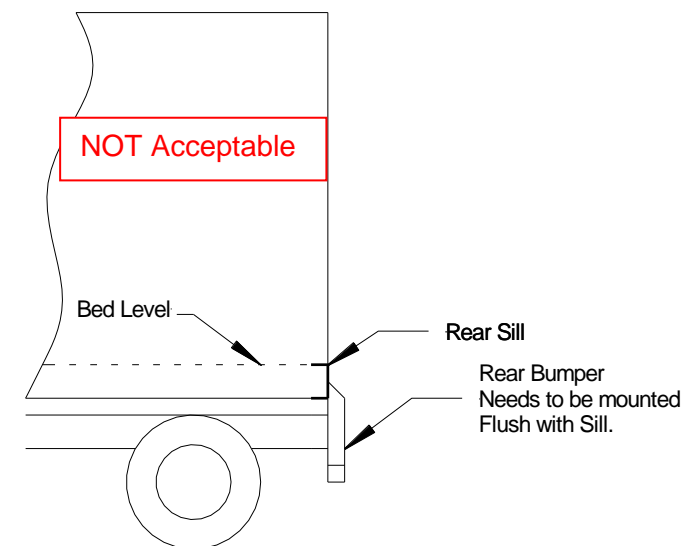

Fig.5
1. Prep rear sill: Remove any sill or corner post mounted lights, grab handles, or bumpers, **Fig.5**. Your goal is to have a flat and flush mounting surface for the liftgate.